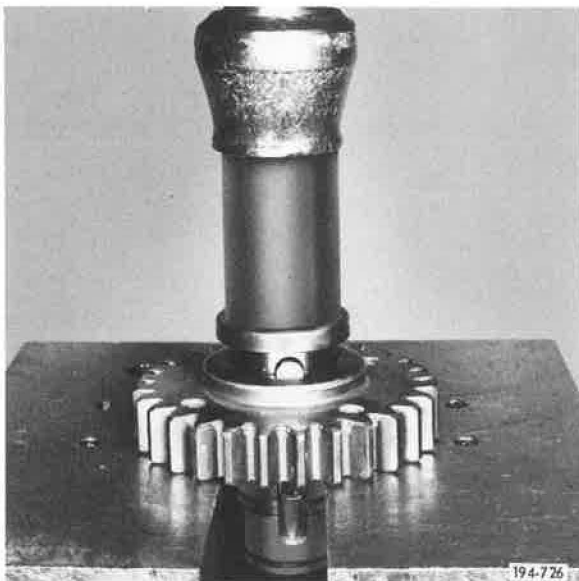

Figure 300. Pressing Shaft Through Gear
3. Select a driving sleeve of suitable size to go over the end of the countershaft and rest on the shoulder of the shaft. Align key with keyway, and press shaft into the Lo-Range gear. See Figure 300.